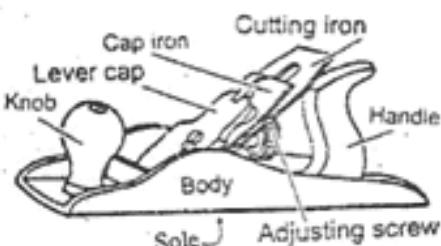

Fig 33 Metal jack plane
**Metal Plane.** Metal planes serve the same purpose as the wooden planes but facilitate a smoother operation and better finish. The body of a metal plane is made from a gray iron casting, with the side and sole machined and ground to a bright finish. The thickness of the shaving removed is governed by a fine screw adjustment, and a lever is used for adjusting the blade at right angles. A metal jack plane is shown in Fig. 33.